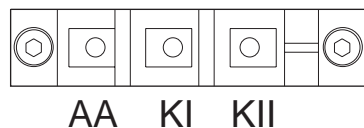

Figure 4.2.22: DB Diode Module Terminals
2. Set the DB diode module in place on the heatsink with the KII terminal toward the outer edge of the controller and align the mounting holes (see Figure 4.2.22). Using a torque wrench with hex key socket, install and tighten the two mounting screws. Initially torque the screws to 6.0–9.0 lb-in (0.7–1.0 N•m), then tighten to a final torque of 36 lb-in (4 N•m).